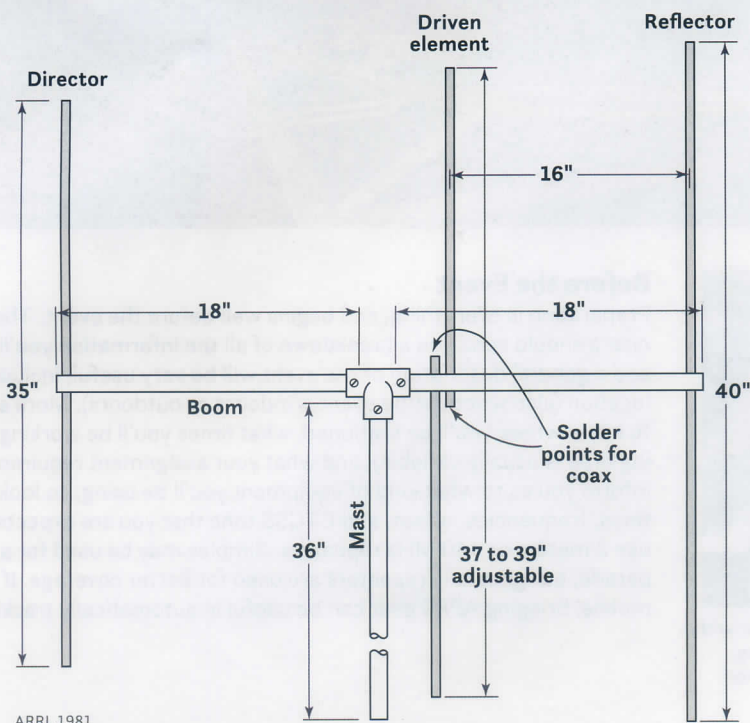

Figure 1: The assembly diagram of the three-element 2-meter Yagi antenna.
For a diagram of this antenna, see Figure 1 on page 25. Using a saw or PVC cutting tool, cut two 18-inch lengths of the PVC pipe. These will become the boom pieces. The remaining 36-inch piece will be used as a mast (see ①).
Using a large wire cutter or a hacksaw, cut the director and reflector elements to the lengths shown in Figure 1: 35 inches for the director and 40 inches for the reflector. If you can't find a 40-inch rod for the reflector, don't worry. You can attach small pieces at the ends to achieve the total length. We'll discuss this in Step 5.